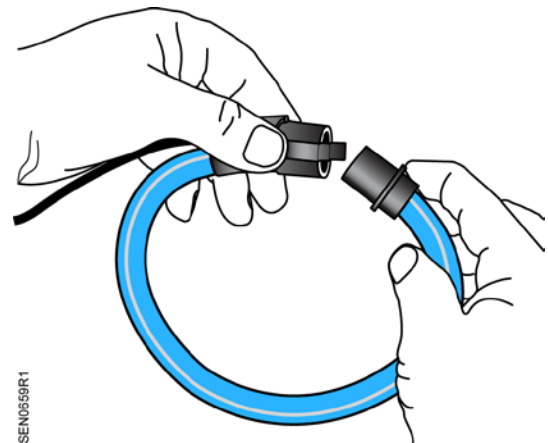

Figure 1. Open CT.
1. Open the CT by squeezing the connector and pulling apart. See Figure 1.